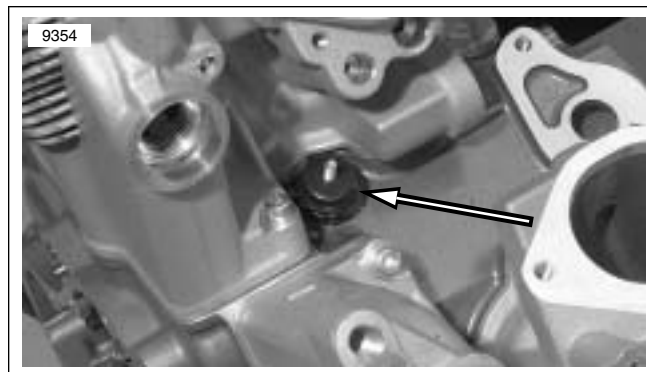

Figure 8-65. Oil Pressure Switch (typical)
7. See Figure 8-65. Remove the wiring harness connector from the oil pressure switch.